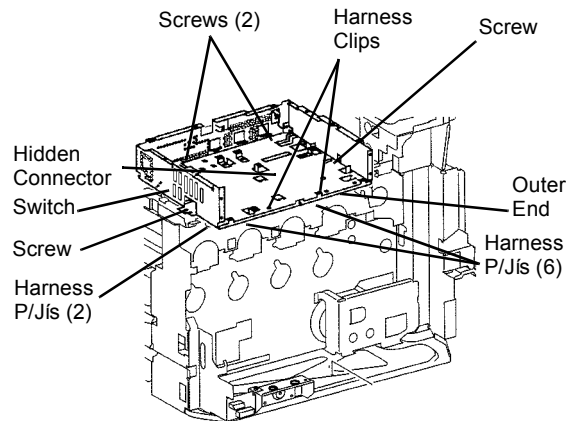

Figure 1 Removing ESS Chassis
6. Remove ESS Chassis (Figure 1).
- a. Push Harness Clips (2) down out of Chassis holes
- b. Disconnect Harness P/JIs (6).
- c. Disconnect Harness P/JIs (2).
- e. Loosen Screws (2) at front and remove Screws (2) at rear of machine.